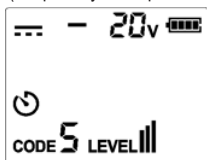

Figure 12.1b DC voltage measurement
5. When the voltage is 8 V ~ 480 V DC/AC (50/60 Hz). If the measured voltage is DC voltage and the positive pole is connected to COM port, then the polarity of the port will be displayed (the polarity of V+ port is "-"), as shown in Figure 12.1b.